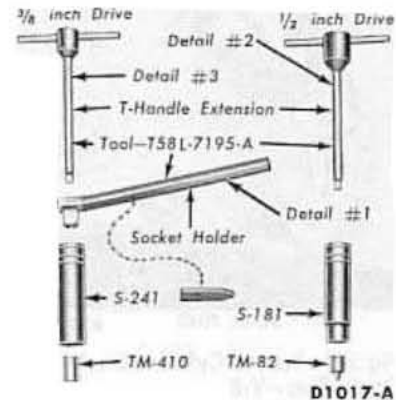

Fig. 45—Front and Rear Band Adjusting Tools—FX-MX
4. Pull the adjusting screw end of the actuating lever away from the servo body, and insert the $\frac{1}{4}$ " adjusting tool gauge block (Fig. 45) between the servo piston stem and the adjusting screw.
The tool shown in Fig. 45 may be used to adjust the rear band.
1. Place the socket holder on the $\frac{3}{4}$ -inch socket (Fig. 45). Insert the T-handle extension through the handle and socket.